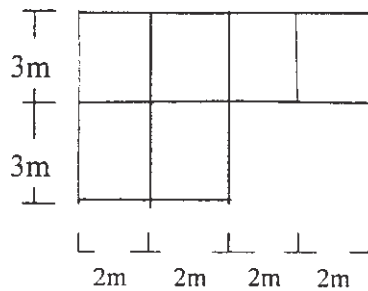

Figure 5.1
- Q5)** Determine the design eccentricity in X-direction for a three storey building as shown in Figure 5.1. The total seismic weight / floor =  $450 \text{ kN}$ . The column size =  $400 \text{ mm} \times 600 \text{ mm}$ . Assume grade of concrete = M25. [18]